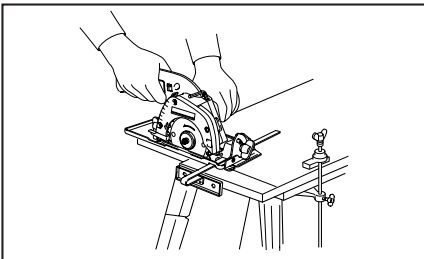

Fig. 4 A typical illustration of proper hand support and workpiece support.
- WARNING:** It is important to support the workpiece properly and to hold the saw firmly to prevent loss of control which could cause personal injury. Fig. 4 illustrates typical hand support of the saw.